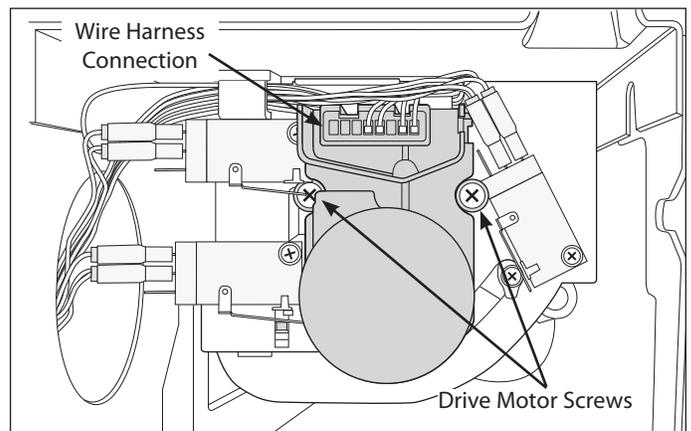

Figure 6-79.
2. Extract the two screws securing the drive motor to the gear box. (See Figure 6-79)